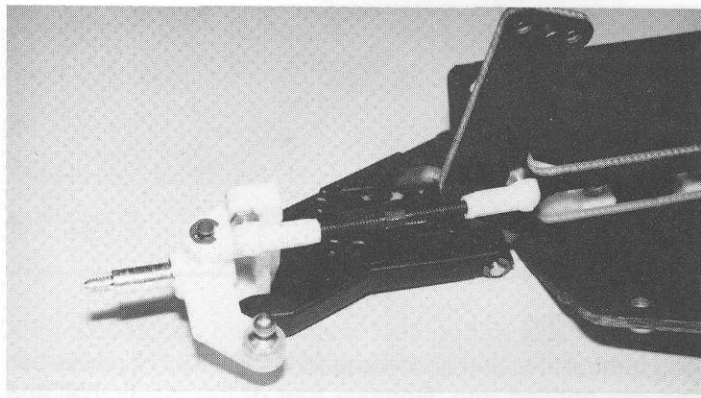

Fig. 21
□ **Fig. 21** Snap the plastic turnbuckle ball ends onto the steel ball end on the top of the left hand #6210 front carrier block, and on the steel ball end on the left hand of the shock strut. You will probably have to use your needlenose pliers to snap them on. Now go ahead and do the same for the right hand turnbuckle assembly.